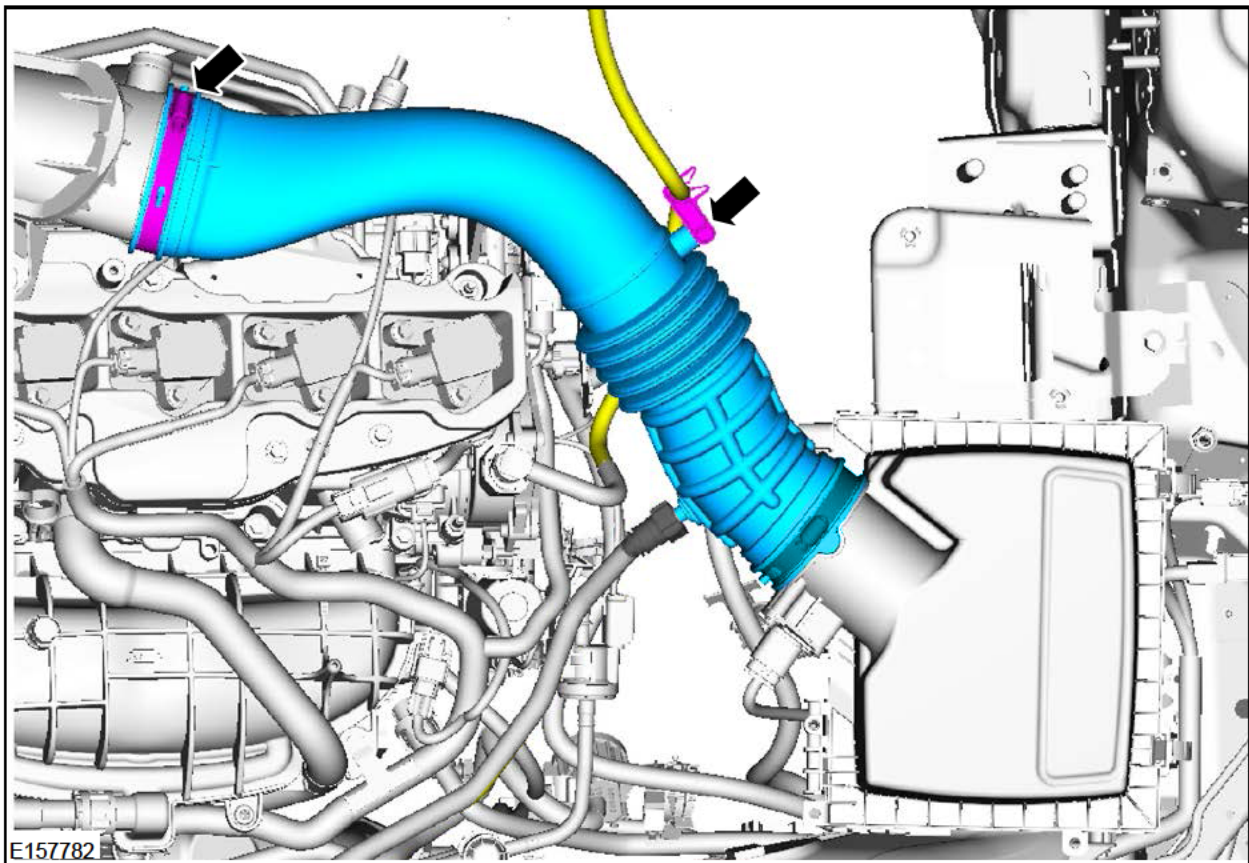

FIGURE A1
7. Detach the EVAP line from the clip on the air intake tube center section. See Figure A1.
8. Loosen the clamp and disconnect the air intake tube from the turbocharger inlet pipe. See Figure A1.